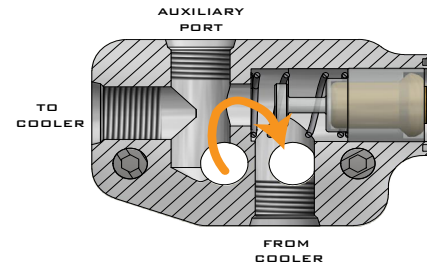

Figure 2 - Oil Path During Engine Warm-Up
- The thermostat bypasses the oil cooler as shown in Figure 2 until the oil temperature reaches the rated temperature.